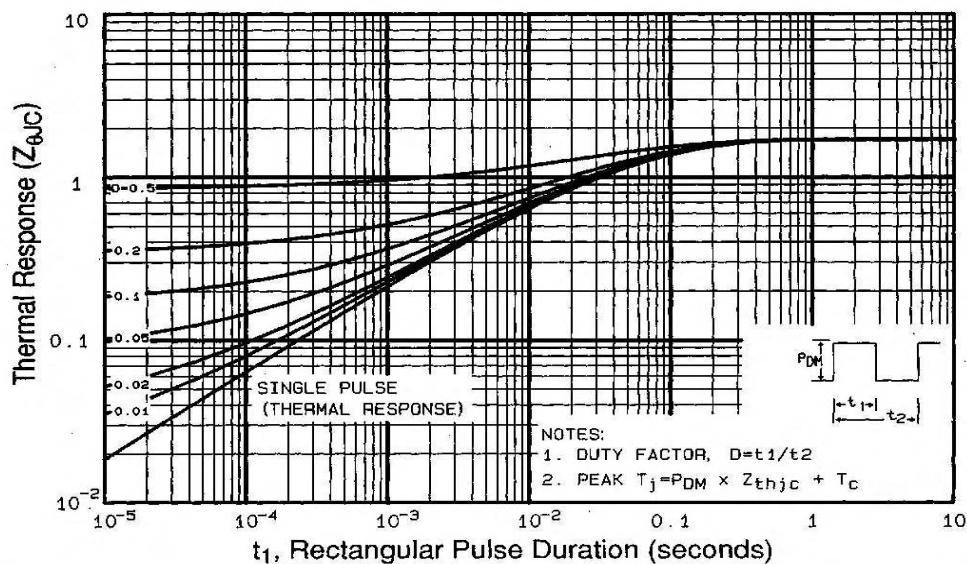

Fig 11. Maximum Effective Transient Thermal Impedance, Junction-to-Case
① Repetitive rating; pulse width limited by max. junction temperature (See Figure 11)
③ $I_{\text{SD}} \leq 14\text{A}$, $di/dt \leq 140\text{A}/\mu\text{s}$, $V_{\text{DD}} \leq V_{(\text{BR})\text{DSS}}$, $T_J \leq 175^\circ\text{C}$ ② $V_{\text{DD}}=25\text{V}$, starting $T_J=25^\circ\text{C}$, $L=528\mu\text{H}$